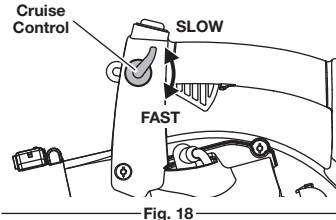

Fig. 18
1. Move the variable speed cruise control toward the FAST position to incrementally increase or maintain the unit's engine speed (Fig. 18). When the variable speed cruise control is pressed, the trigger will recede into the handle.
2. To decrease engine speed, move the variable speed cruise control to the SLOW position and the trigger will return to idle (Fig. 18).